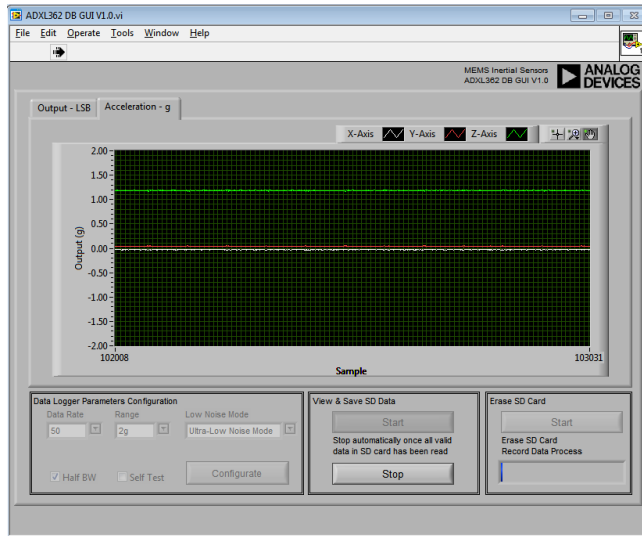

Figure 36. View and Save SD Card Data on PC
13. The saved data on SD card can be viewed and saved to PC by clicking **Start** button in **View & Save SD Data** section. This causes many of the options and tabs to be grayed out or to disappear, to prevent software conflicts, until all valid data in SD card has been read or the **Stop** button in **View & Save SD Data** section is clicked. The saved acceleration data on SD card then begins to flow across the screen (See Figure 36).